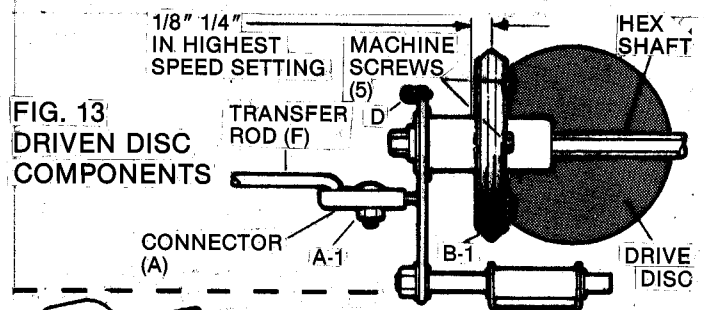

FIG. 13
**DRIVEN DISC ADJUSTMENT:** Stop the engine and shift the GROUND SPEED CONTROL (12) into the highest setting. The CENTER of driven disc should be 1/8" to 1/4" from the EDGE of the drive disc as shown in FIG. 13. To re-adjust, loosen connector hex nut (A-1) and slide the driven disc in or out as required. Re-tighten connector hex nut to secure the driven disc in the proper position.